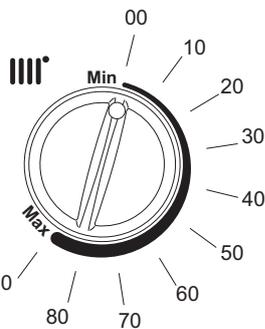

Fig. 20
3. Normally the display will show the current temperature of the water in the boiler. As the knob is turned the display will show the selected curve (Fig. 20 & 21).